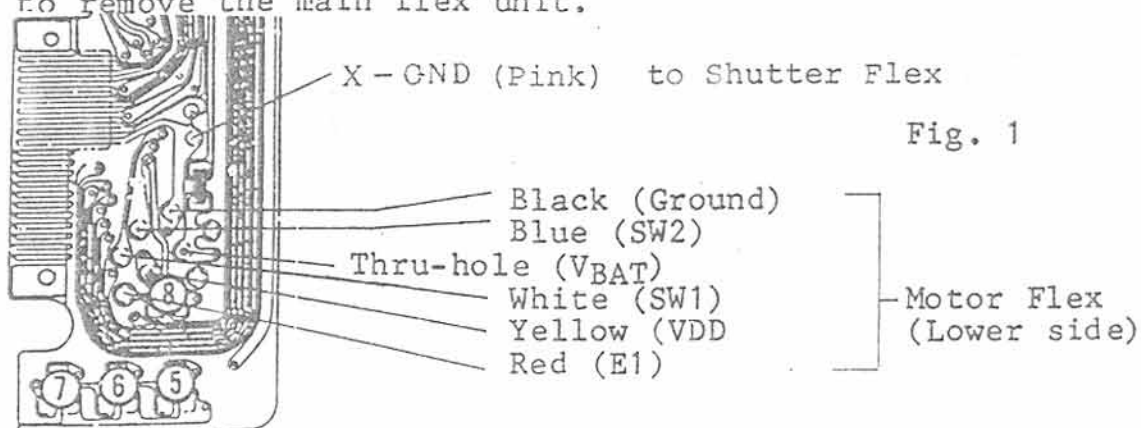

Fig. 2
4. Unsolder the connections shown in figure 2 on page 17.
5. Remove resistor R8 (Fig. 2) and replace it with the variable resistor set to R8's resistance.
Standard: Fig. 2